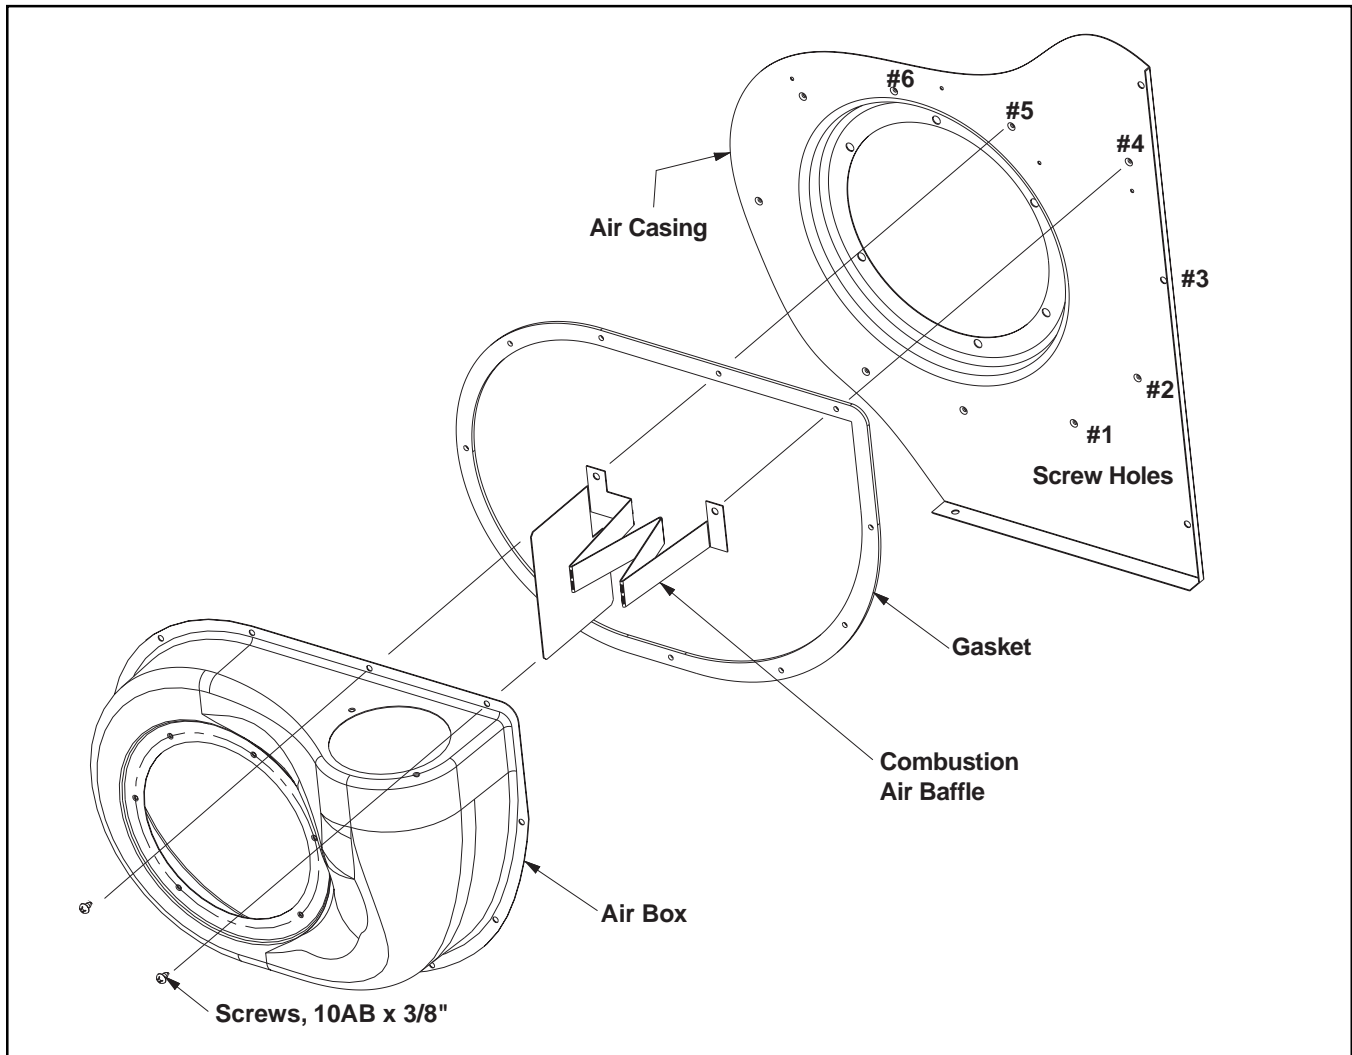

Figure 1. Combustion Air Baffle Assembly
2. Remove the six top and left screws, #1,2,3, 4, 5, and 6 of air box as shown in Figure 1.